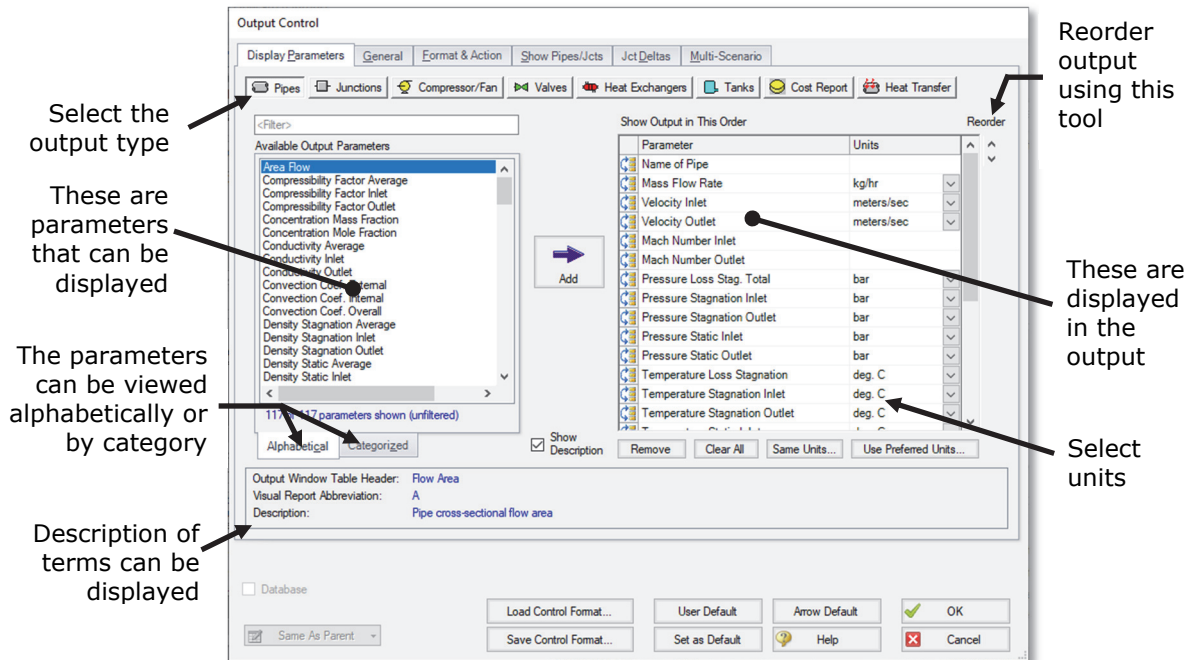

Figure 2.17 The Output Control window lets you customize the output
The Output Control window (Figure 2.17) allows you to select the specific output parameters you want in your output. You also can choose the units for the output. If you do not change any of the Output Control settings, default Output Control parameters and a default title are assigned.
- **Select Output Control from the Tools menu** or the Main Toolbar to open the Output Control window (Figure 2.17). On the Display Parameters tab, select the Pipes button. The list of selected pipe output parameters will be displayed on the right hand side. If you selected the default AFT Arrow Output Control, the pipe results in the Pipes table will show mass flow rate in the second column with units of kg/sec.
- **Select Output Control from the Tools menu one more time.** Select the Display Parameters tab, and select the Pipes button. The Reorder scroll bar on the far right allows you to reorder the sequence of parameters that will be displayed in the output. You can also click on the reorder symbol on the left side of each row to manually drag-and-drop the rows to change the parameter order (see Figure 2.17).